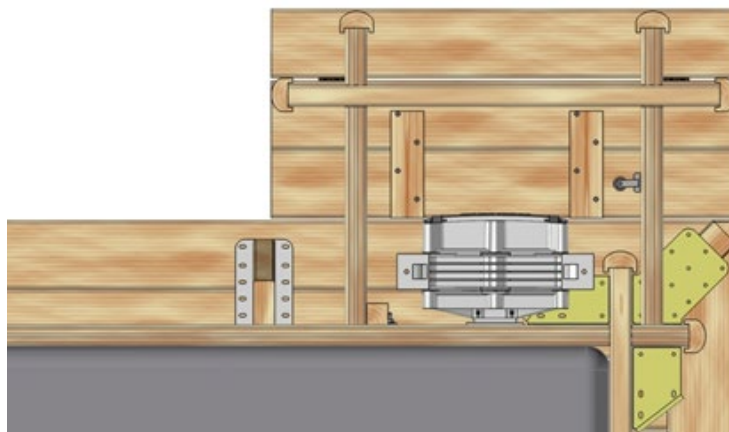

Figure 61 – View from below– Position of the cover pit
Place the two 626 cm slats (1) that will constitute the cover pit widths on the ground against the pool in the exact location where the cover pit should be installed (*Figure 61*), then slot the 905 cm slats (3) that will constitute the lengths into position. Build up the rows checking regularly that the corners are square and that the walls are level. Make sure that the slats are fully engaged in each other. Finish with slats 2 and 5.